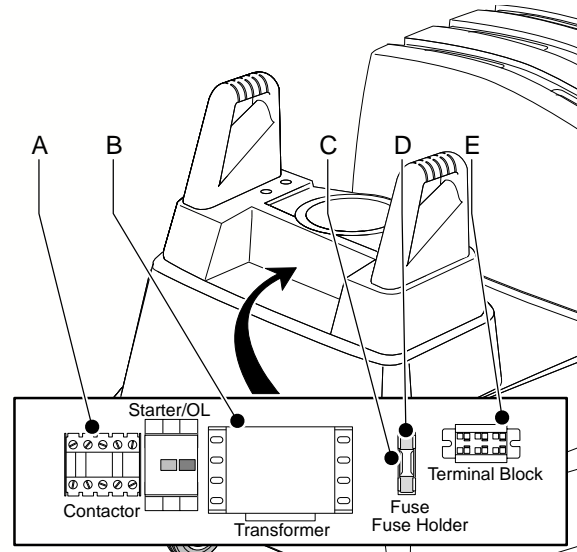

Fig. 15
Note: If the control panel has the Contactor, Transformer, Fuseblock/Fuse, and Terminal Block already installed (as in Fig. 15), skip to the next step "Making the connections at the Control Panel."
Use the seven supplied screws to mount the pieces of the Transformer Relay Kit in the Control Panel of the Mobiflex unit as shown in Figure 15. Use the two smaller screws to mount the terminal block (E), one of the larger screws to mount the fuse holder (C), and